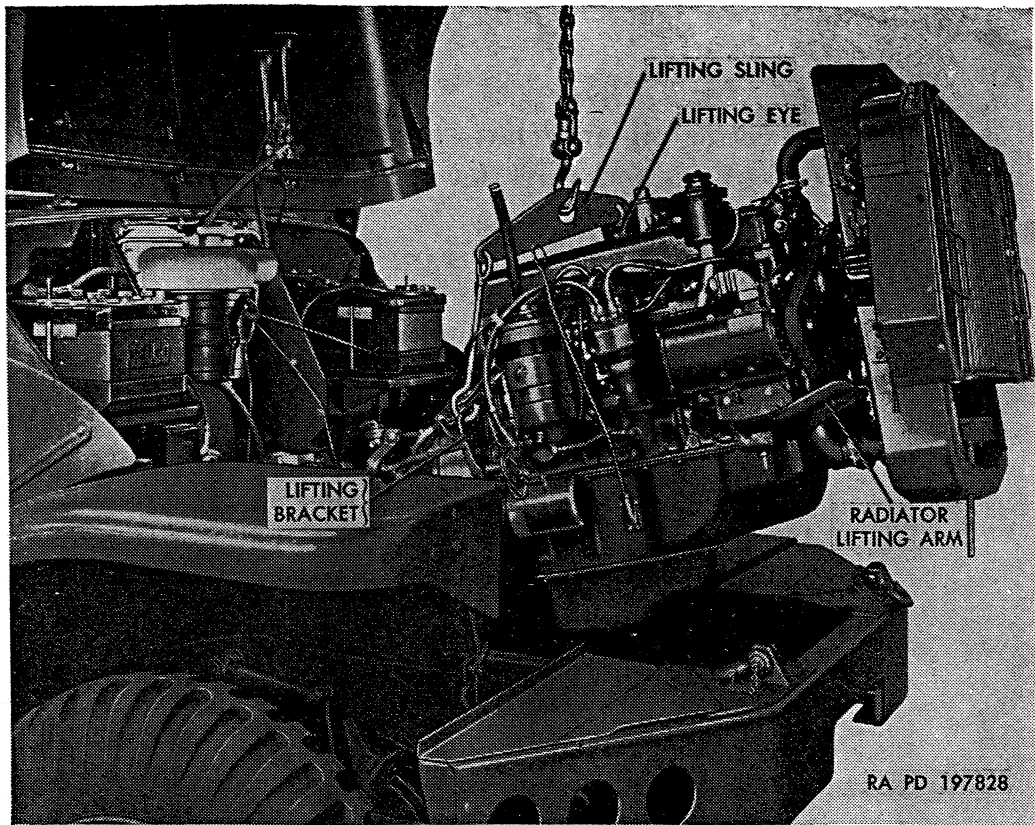

Figure 110. Removing power plant using engine lifting sling—B7950988.
*c. Equipment.* In addition to mechanic's common handtools, one special tool is required to accomplish power plant removal. Lifting sling B7950988 is necessary to lift power plant out of vehicle. Lifting eye on cylinder head special stud and a bracket at flywheel housing are located to provide proper balance when sling is attached for lifting power plant (fig. 110).
*f. Removal From Vehicle (fig. 110).*
- (1) Attach hoist to cross bar of engine lifting sling B7950988 (fig. 110); then engage short hook of sling with lifting eye on cylinder head stud and engage long hook at lifting bracket on flywheel housing.
- (2) Lift power plant off mountings, being careful to note if all lines, wiring, and attaching bolts have been removed. Move power plant forward in gradual stages, raising as necessary to clear front cross member. If vehicle has a winch, raise the power plant to provide necessary clearance. Move power plant forward, and support in manner which will permit access to drain plugs in transmission, torus cover, and engine oil pan.
- (1) Attach engine lifting sling B7950988 to lifting eye and lifting bracket at flywheel housing, then raise power plant high enough to clear frame and move into position in engine compartment as shown in figure 110.